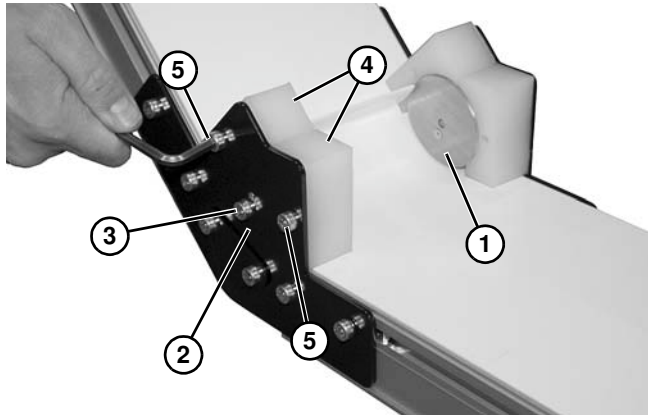

Figure 78
5. If equipped with a lower knuckle, install roller bearing assembly (**Figure 78, item 1**) into knuckle plate (**Figure 78, item 2**) with screws (**Figure 78, item 3**) on both sides of conveyor.
6. Install guards (**Figure 78, item 4**) with screws (**Figure 78, item 5**) on both sides of conveyor.